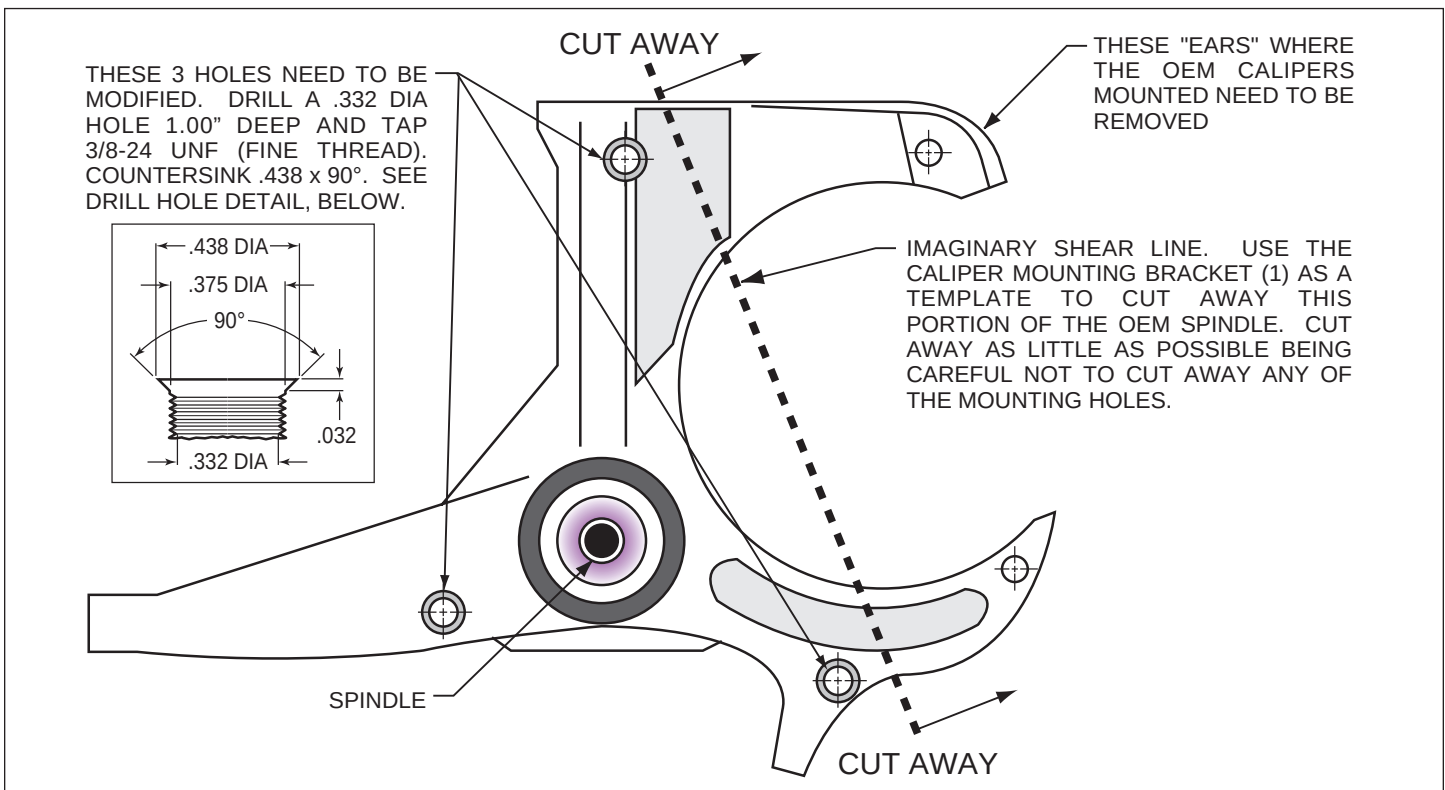

Figure 1. Steering Arm / Spindle Modifications
These modifications should be performed by a qualified machinist. Refer to Figure 1 as necessary (numbers in parenthesis refer to the parts list on page five). Only one view of the steering arm/spindle is shown, but the modifications need to be performed on both steering arm/spindles.
•Mount the adapter/rotor assembly (10/11) to the hub (7) using bolts (13) (finger tight), as shown in Figure 1. Using an alternating sequence, remove bolts one at a time, apply red *Loctite*® 271 to the threads, and torque to 55 ft-lb.
•Pack the small outer bearing cone (14) with high temperature disc brake bearing grease. Lightly coat the spindle bearing surfaces with bearing grease. Slide the hub/rotor assembly (7 and 11) with outer bearing cone (14) onto the spindle. Secure using spindle washer (15), existing adjusting nut and nut locking device. **NOTE:** Because of a tolerance variation among spindles, it may be necessary to install a shim washer (16) between the spindle washer (15) and the spindle nut if the spindle nut will not tighten down all the way. There are four supplied in the kit for your convenience.